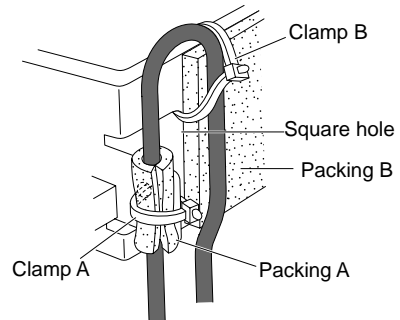

Fig. 31c
6. Insert clamp B in the square hole of the mounting valve, and bind it so the tube assy is in contact with packing B. (Fig. 31c)